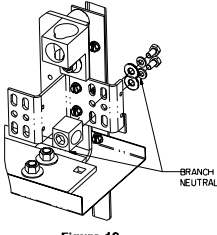

Figure 10
11. Reference fig. 10 - Installing the Branch Neutral Lug (item 18) in a Panelboard. The Branch Neutral is located at the bottom of the "Z-rails", or mirrored at the top depending upon the feed cable location. Two (2) different Neutral lug assemblies are included in the kit, be sure to install the type pictured below. The Neutral lug assemblies can be mounted, as shown, on either side of the Branch Neutral depending on cable feed location. Torque all hardware as specified on the rear of the deadfront.